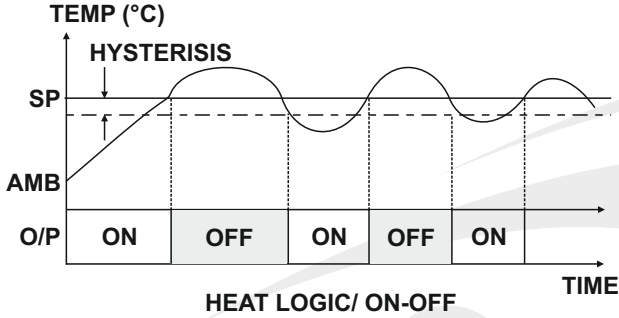

Fig : 3.1
**ON-OFF ACTION** : In this mode, Output (Relay/SSR) remains ON till actual temperature reaches to the set point value. On reaching to SP, Output turns OFF & remains OFF till actual temperature drops down (in Heat Logic) or raises (in Cool Logic) equal to hysteresis set by user. (As shown in Fig. 3.1 & 3.2)